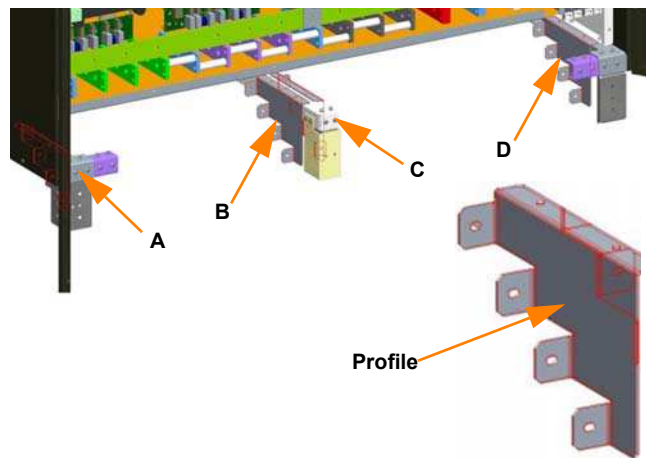

Figure 3.12
4. Instal the four profiles (A), (B), (C), (D) as illustrated in Figure 3.12. Each profile should be secured using two M5 screws tightened to a torque of 6.0 Nm.